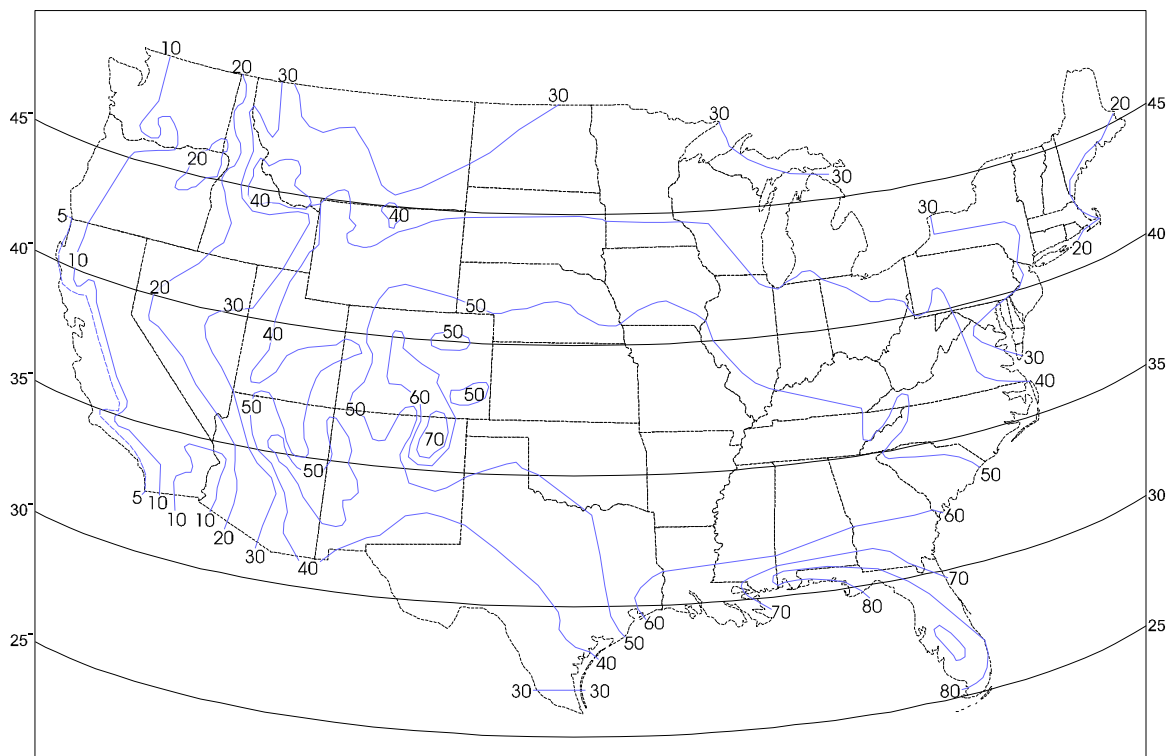

Figure 4-1 - Average Thunderstorm Days of the Year (for Continental USA)
The map of Figure 4-1 shows the average annual number of thunderstorm days (Isokeraunic level) for the various regions within the continental U.S.A. This map is not representative of the severity of the storm or the number of lightning strikes since it does not take into account more than one lightning strike in a thunderstorm day. The Isokeraunic or Isoceraunic number provides a meteorological indication of the frequency of thunderstorm activity; the higher the Isokeraunic number the greater the lightning strike activity for a given area. These levels vary across the world from a low of 1 to a high of 300. Within the United States the Isokeraunic level varies from a low of 1 to a high of 100.
1. Using the map of Figure 4-1 (or a comparable meteorological map for your local), find the Isokeraunic level (I) for your area. Then using Chart 1, find “A” for your area.
2. Refer to Figure 4-1 to find the latitude. Then using Chart 2, find “B” for your latitude (Lat.°).